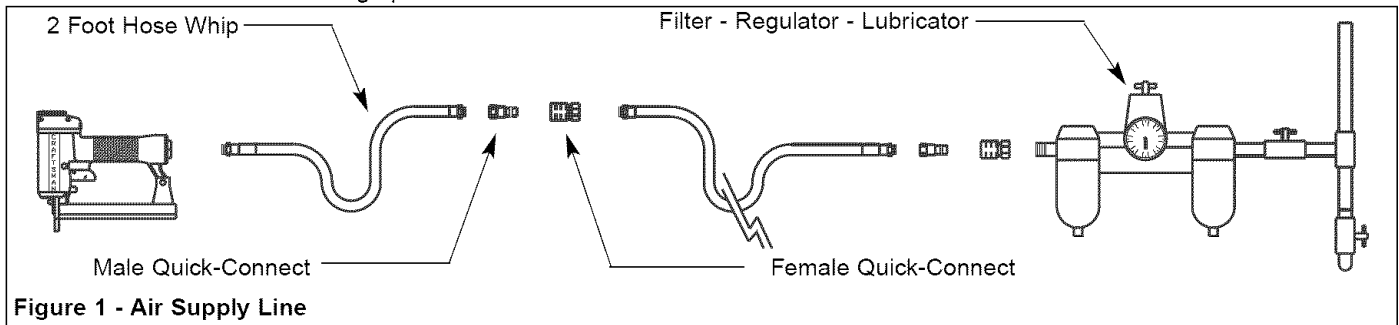

Figure 1 - Air Supply Line
Refer to Figure 1 (page 3).
- A filter-regulator-lubricator system is required and should be located as close to tool as possible (see Figure 1, page 3). A distance of less than 15 feet is recommended.